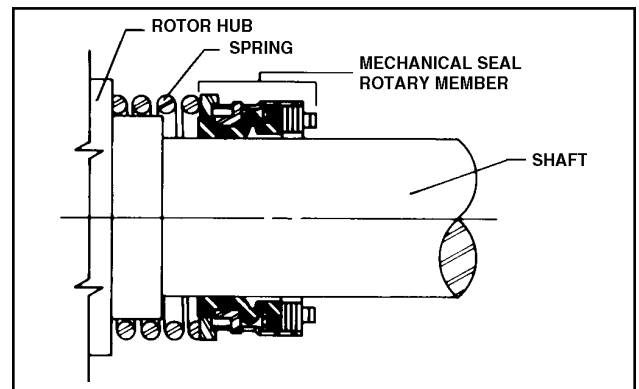

Figure 29
5. Place seal spring on shaft against rotor hub. Refer to Figure 29.